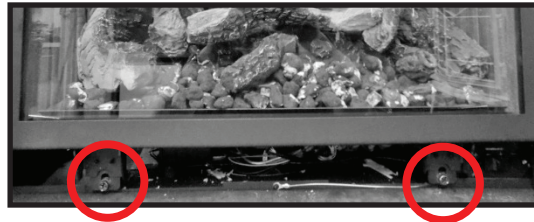

Figure 47
1. Make sure that the gas and electrical supply is shut off. Locate and remove the two 3/8" bolts securing the bottom of door as seen in Figure 47.